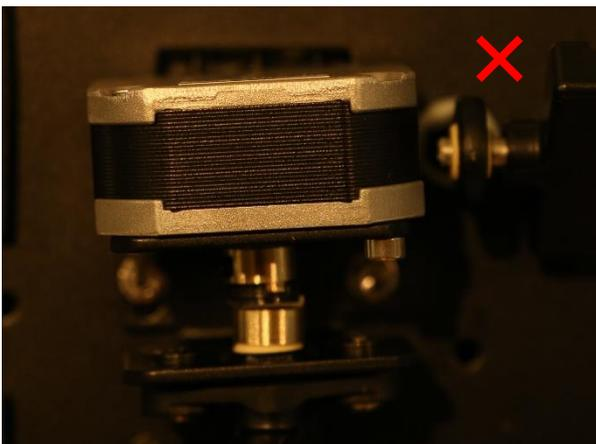

FIGURE 69: BAD MOTOR ORIENTATION
- a) Loosen the two screws (1)
- b) Adjust the Tilt position (2) in the same time that the Stepper Motor support (3) to set the Pin in the detector
- c) Screw back the two screws paying attention to the motor orientation as indicated on figures 69 and 70.